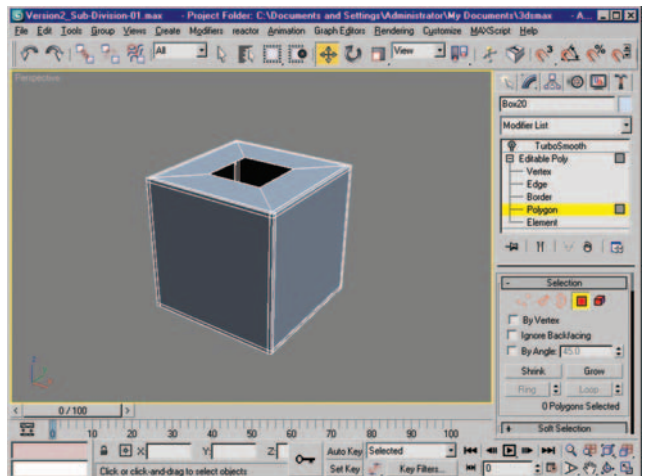

Figure 6.25 Polygons deleted.
3. Delete the newly formed polygons to create open borders at both the top and the bottom of your mesh (Figure 6.25).